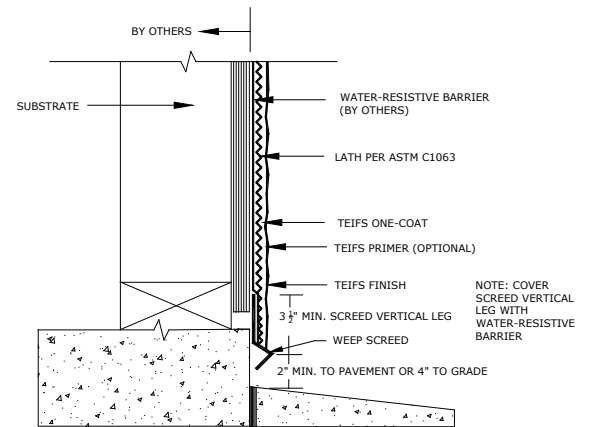

Fig. 8.2
- Stay 3/4 in. (19 mm) away from concrete or other horizontal surfaces, walkways, etc. (Fig. 8.2). Take care not to block the holes in the weep screed.